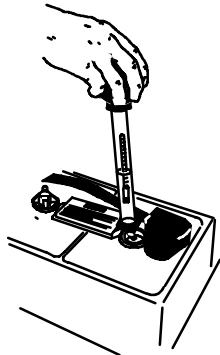

FIG. 41
1. Check the specific gravity using a hydrometer to determine the charge level and the condition of the batteries (Figure 41). If one or more of the battery cells read lower than the other battery cells (0.050 or more), the cell is damaged, shorted, or is about to fail. Check the hydrometer readings against the following chart to determine the remaining battery charge level.